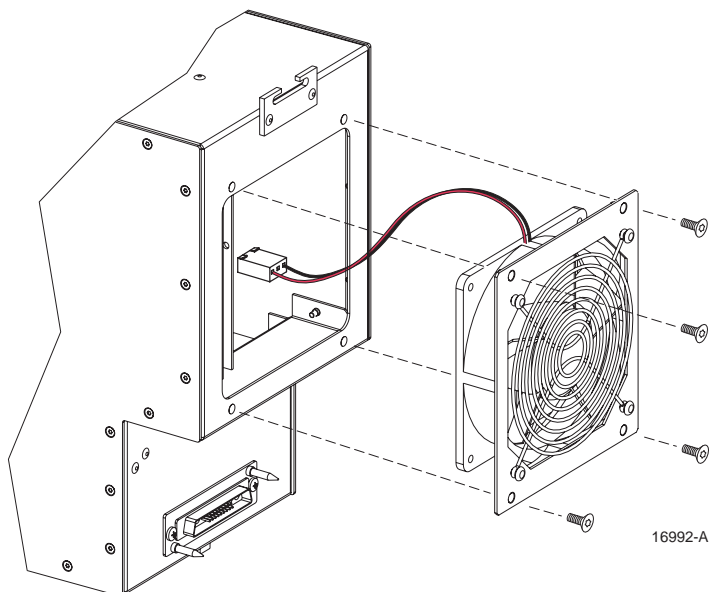

Figure 5-5. STM Fan/Grill Assembly Removal
- Remove the four pan-head screws (requires TORX screwdriver with T10 bit) that secure the fan/grill assembly to rear side of the STM enclosure as shown in Figure 5-5. Save screws for reuse.
13. Secure the fan/grill assembly to the back of the enclosure (see Figure 5-5) using the four pan-head screws removed in step 6. Do not overtighten the screws. The screw threads can be easily stripped if too much torque is used to tighten the screws.